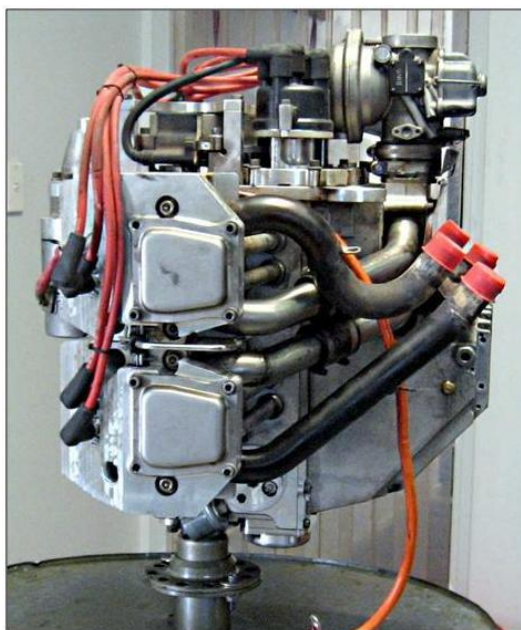

Figure 43 – Engine Stand
- In our engine workshop we use a spare propeller flange bolted to the workbench. The propeller flange on the engine is then bolted to that flange so that the engine is held in an upright position as shown in Figure 43.